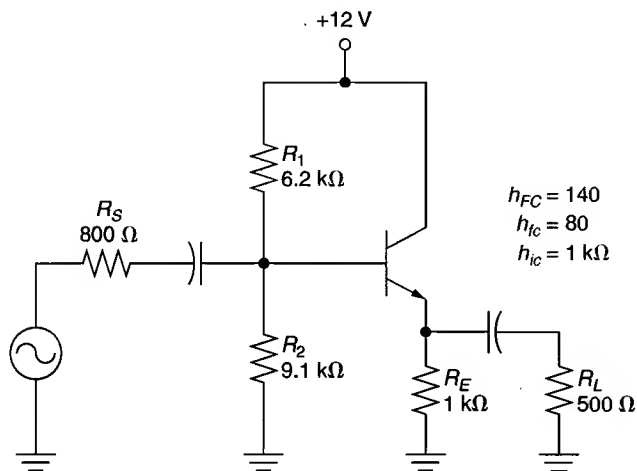

FIGURE 10.22
11. Calculate the gain and impedance values for the circuit in Figure 10.22.
28. Refer to Figure 10.22. The dc emitter voltage for this circuit is approximately 1.7 V. Discuss the possible causes for this problem.